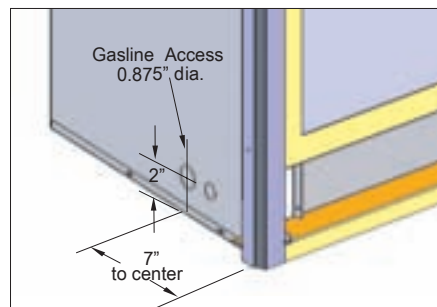

Figure 21. Gas line access.
- See **Figure 21** for location of gas line access.